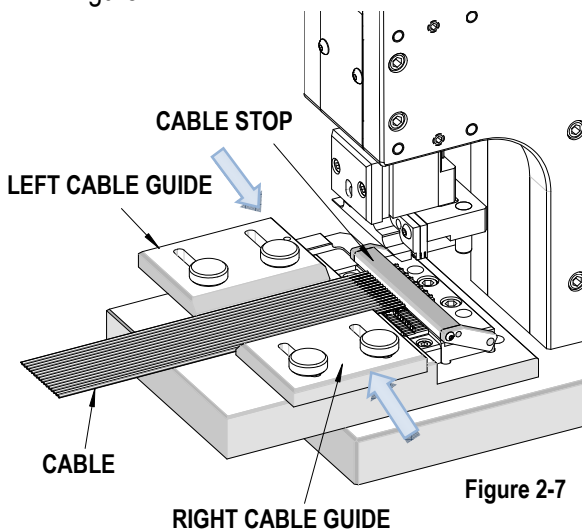

Figure 2-7
- Slide the cable up to the cable stop. See Figure 2-7.